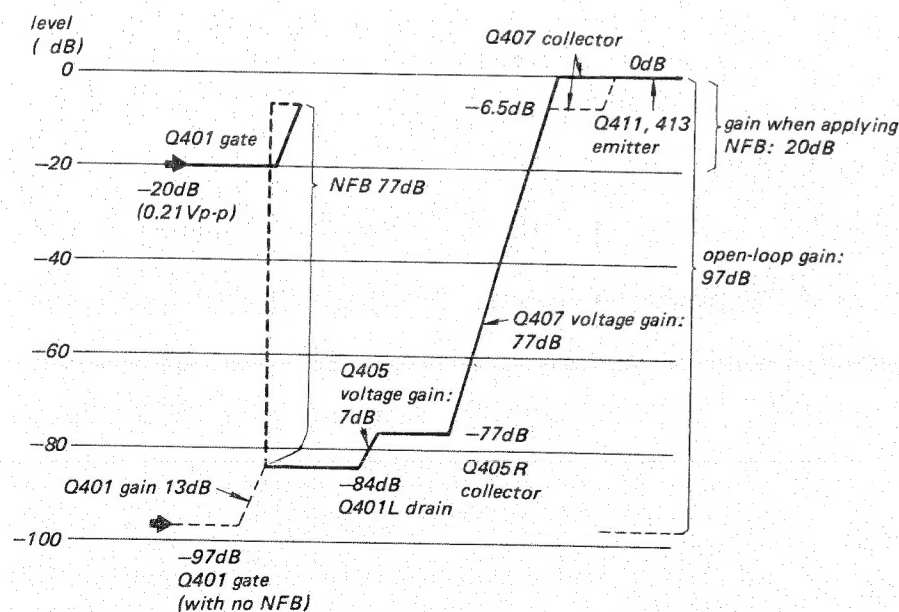

Fig. 12
- The level diagram is shown in Fig. 12. An NFB of 77dB is applied to the amplifier which has 97dB open-loop gain. Since the gain of an NFB amplifier is reduced only by the amount of NFB applied to that stage, the level at the drain of the Q401 becomes -84dB. This is the reason why the signal level is too low to be measured at the intermediate points of amplifier.